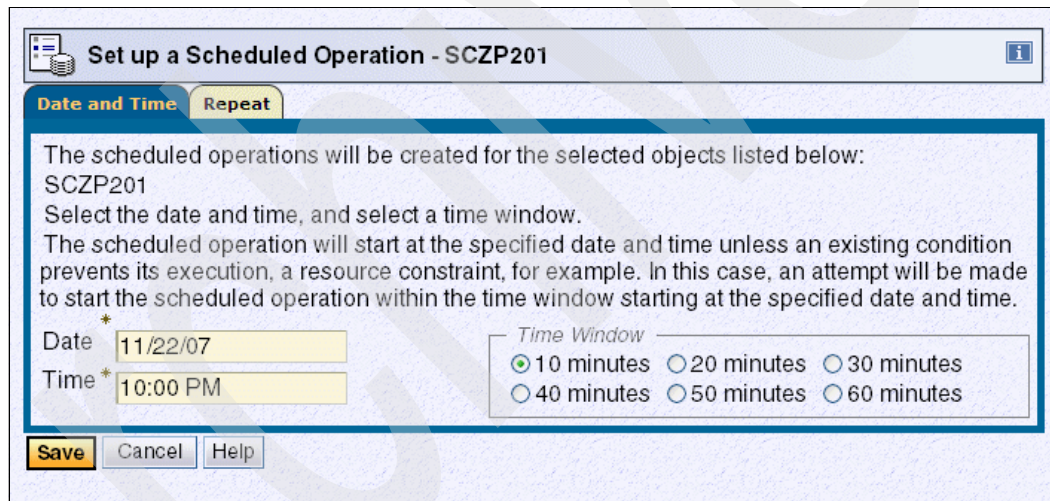

Figure 7-6 Set up a Scheduled Operation/Date and Time
2. Select the “Access external time source” radio button and click **OK**. The Set up a Scheduled Operation dialog opens as shown in Figure 7-6.